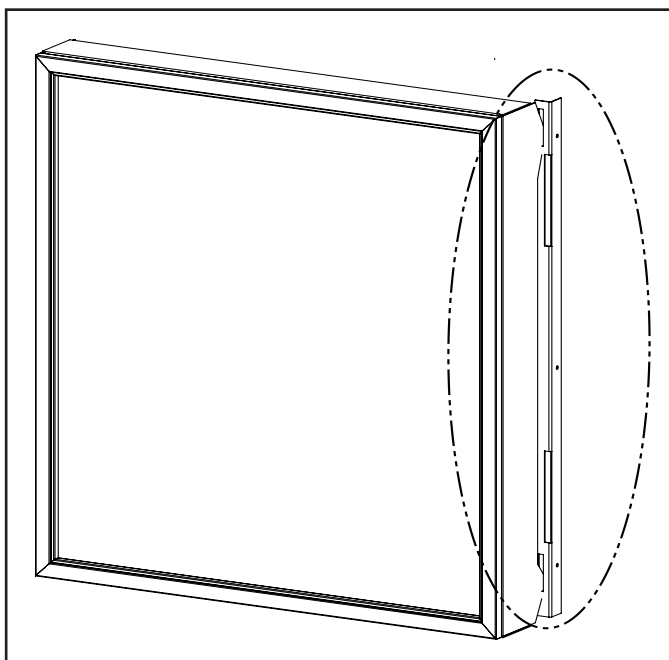

Figure 61: Installing Safety Screen onto Cabinet Bracket (Parts removed for clarity)
2. Lift the face upright in front of the fireplace with the four (4) hooks pointing towards the fireplace. Slide the hooks into the corresponding brackets on each side of the cabinet (see Figure 61). Ensure the hooks are secure before releasing the safety screen.